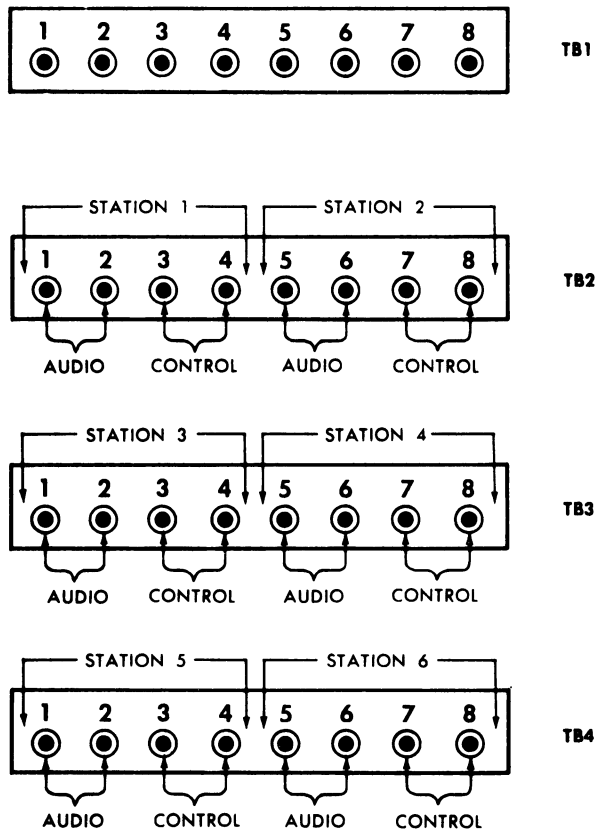

Figure 3 - Telephone Line Connections
- c. Connect telephone pair(s) to audio terminals of TB2, TB3 and TB4 as shown in Figure 3. Observe the following line polarities:
- b. Connect audio pairs to audio terminals of TB2, TB3 and TB4 as shown in Figure 3.
- c. Connect control pairs to terminals of TB2, TB3 and TB4 as shown in Figure 3. Observe the following line polarities: